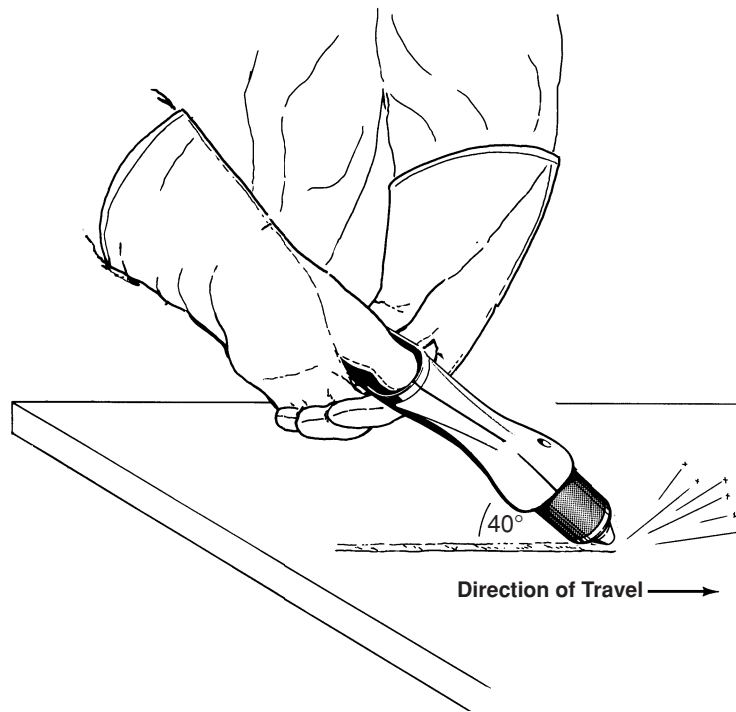

Figure 4-10 Gouging
- Tilt the torch approximately 40-45° from the surface to be gouged and feed into the gouge. Try not to allow the shield to come in contact with the plate since this can cause premature wear. Multiple passes or “weaving” may be necessary to gouge wider and deeper sections. (See Fig. 4-10.)